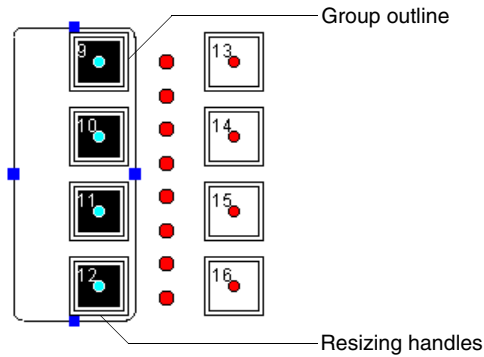

FIG. 11 Sample button group outline and resizing handles
2. Click Group > Add Group to add the group outline around the active buttons. Use the resizing handles to set the outline's size. New button group outlines appear like the sample shown in FIG. 11.